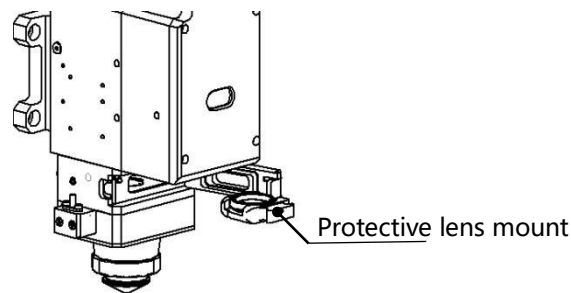

Fig 6.1 - Replace the protective lens
It's necessary to maintain lens regularly because of the characteristic of laser cutting process. Once a week cleaning the protective lens is recommended. The collimating lens and focusing lens need to be cleaned once every 2~3 month. In order to facilitate the maintenance of the protective lens, the protective lens mount adopts a drawer type structure.(Fig6.1)
- As shown in Figure 6.1, loosen two locking screws, hold the two sides of the drawer type lens mount and pull out the protective lens mount.